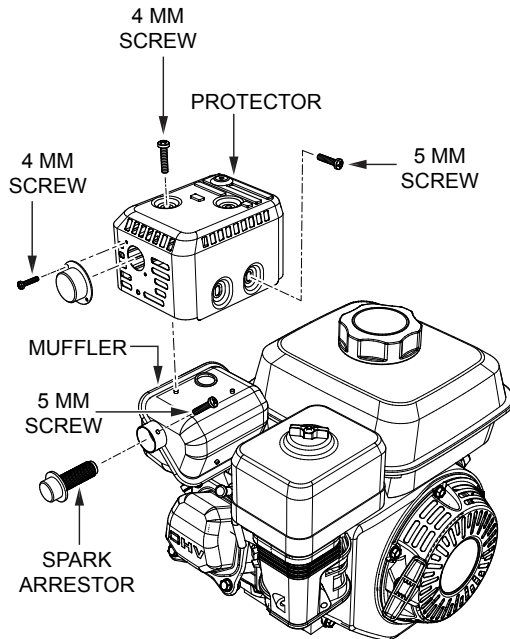

Figure 38. Spark Arrester
Clean the spark arrester (Figure 38) every 6 months or 100 hours.
1. Remove the 4 mm screw (3) from the exhaust deflector (Figure 38), then remove the deflector.